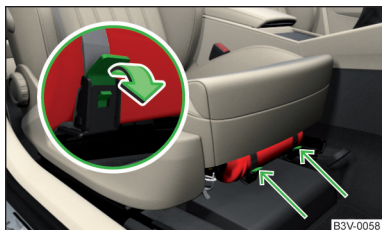

Fig. 329
- To **remove** the fire extinguisher, release the safety catches on the two belts in the direction of arrow » Fig. 329 and remove the fire extinguisher.